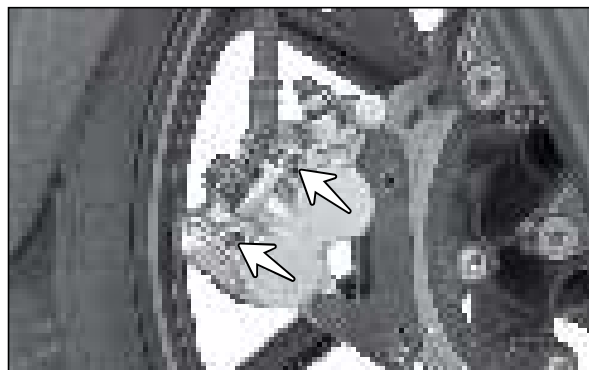

Fig. 6.16
- Remove pin hanger (2 Nos.). (Fig. 6.16)